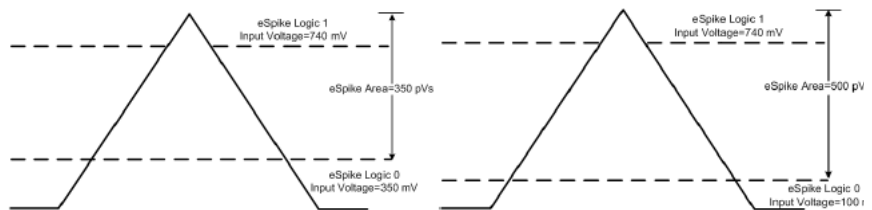

Figure 35 Examples of eSPIKE
- Some examples are (refer to Figure 35):